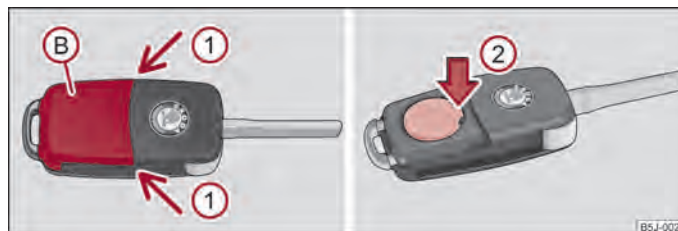

Fig. 10 Remote control key - remove cover/remove battery
Each remote control key contains a battery which is housed under the cover (B) → fig. 10. If the battery is discharged, the red warning light (A) does not flash after you press a button on the remote control key → fig. 9. We recommend that you have the batteries of the key replaced by an authorised ŠKODA Service Partner. You should, however, proceed as follows if you wish to replace the discharged battery yourself:
- Press off the battery cover with your thumb or using a flat screwdriver at the points of the arrows ①.
- Remove the discharged battery from the key by pressing the battery downwards at the point of the arrow ② → fig. 10.